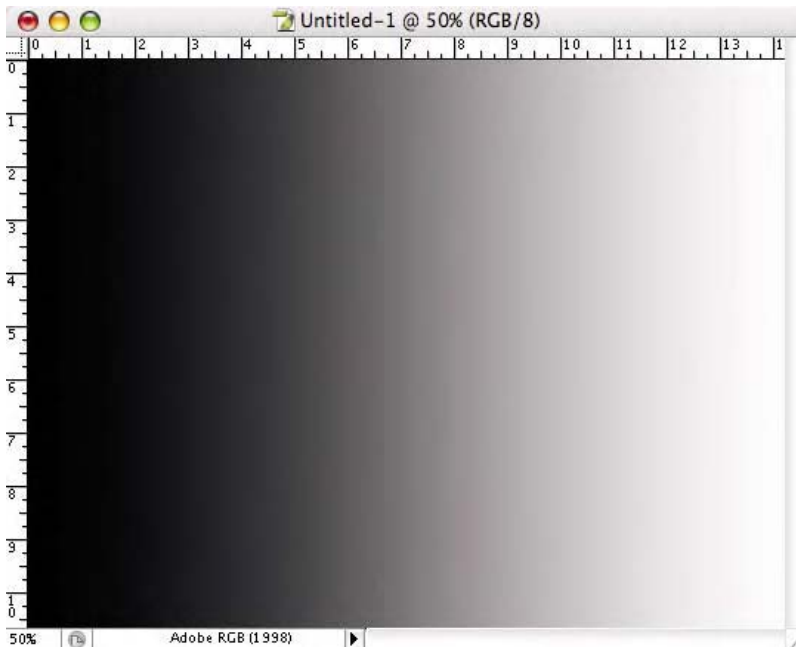

Fig. 9-12-5 The black-to-white gradient should look like this.
5. Hold down the **Shift** key and click and drag from the far left to the far right of the document (horizontally) to produce the black-to-white gradient as seen in Fig. 9-12-5.